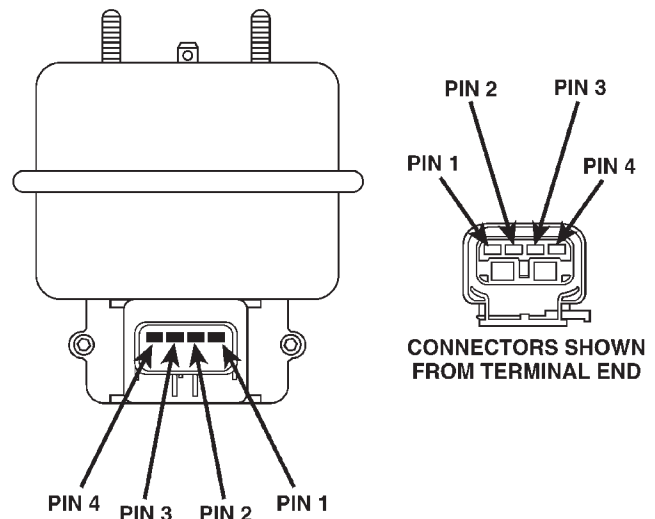

Fig. 1 Servo 4-Way Harness Connector
- (1) Start engine.
- (2) Disconnect 4-way electrical connector at servo.
- (3) Turn speed control switch to ON position.
- (4) Check for battery voltage at pin-3 of wiring harness 4-way connector (Fig. 1). This is the 12 volt feed from the stoplamp switch. When the brake pedal is depressed, voltage should not be present at pin-3. If voltage is not present with brake pedal **not** depressed, check for continuity between servo and